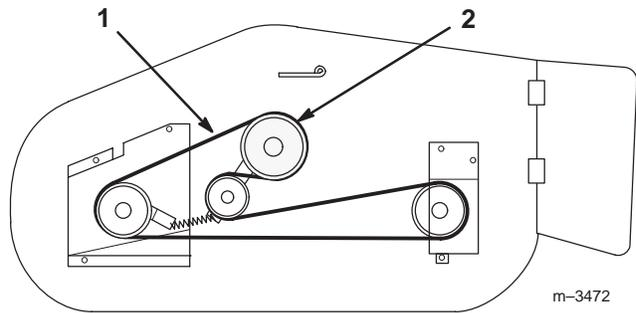

Figure 2
- Route the mower belt as shown in Fig. 2. Be sure to install the belt on the lower mower deck pulley.